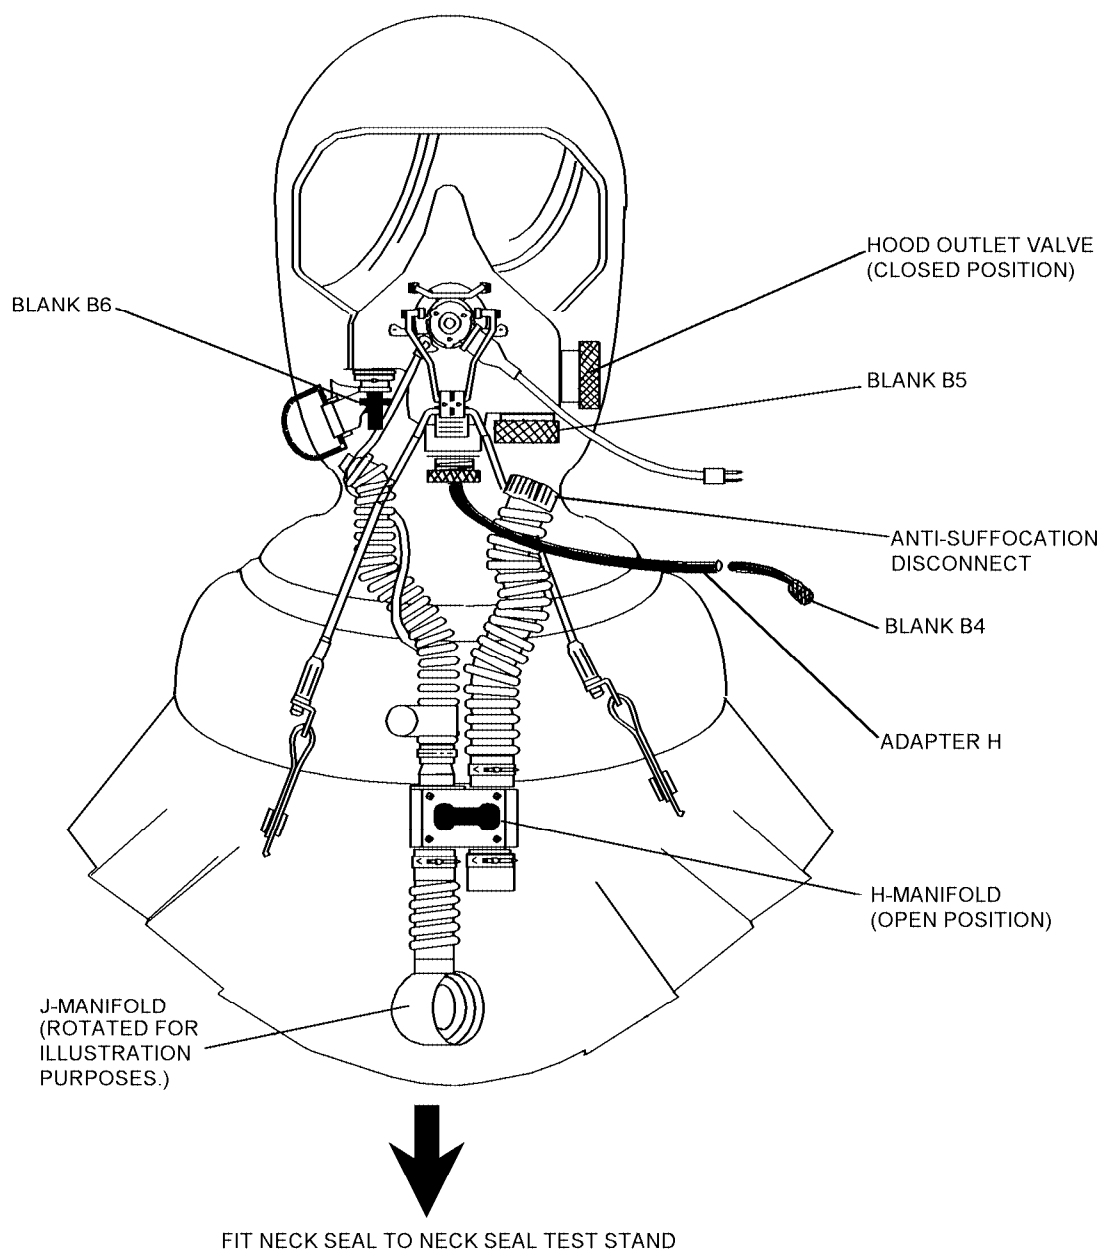

Figure 4-89. (V)1 Variant - Non-Oxygen Hood Assembly - Overall Leakage Test
9. Fit blank B5 to mask inlet adapter (figure 4-89).
10. Fit blank B6 to hood inlet adapter (figure 4-89).